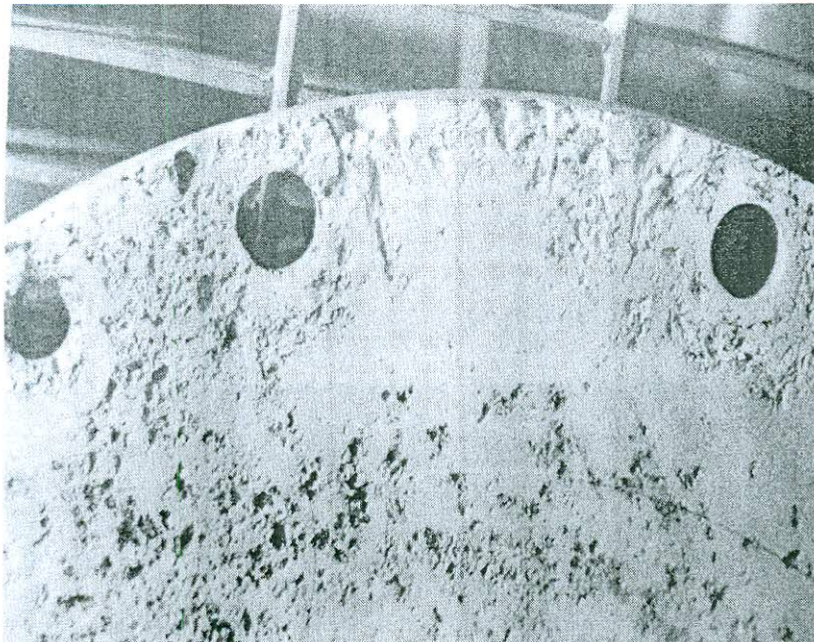

Figure 5 - Two views of corrosion in a type 316 stainless steel centrifuge head
- [b] Discuss the type and mechanism of corrosion in a type 316 stainless steel centrifuge head due to exposure to calcium chloride (CaCl_2) solution (Figure 5).